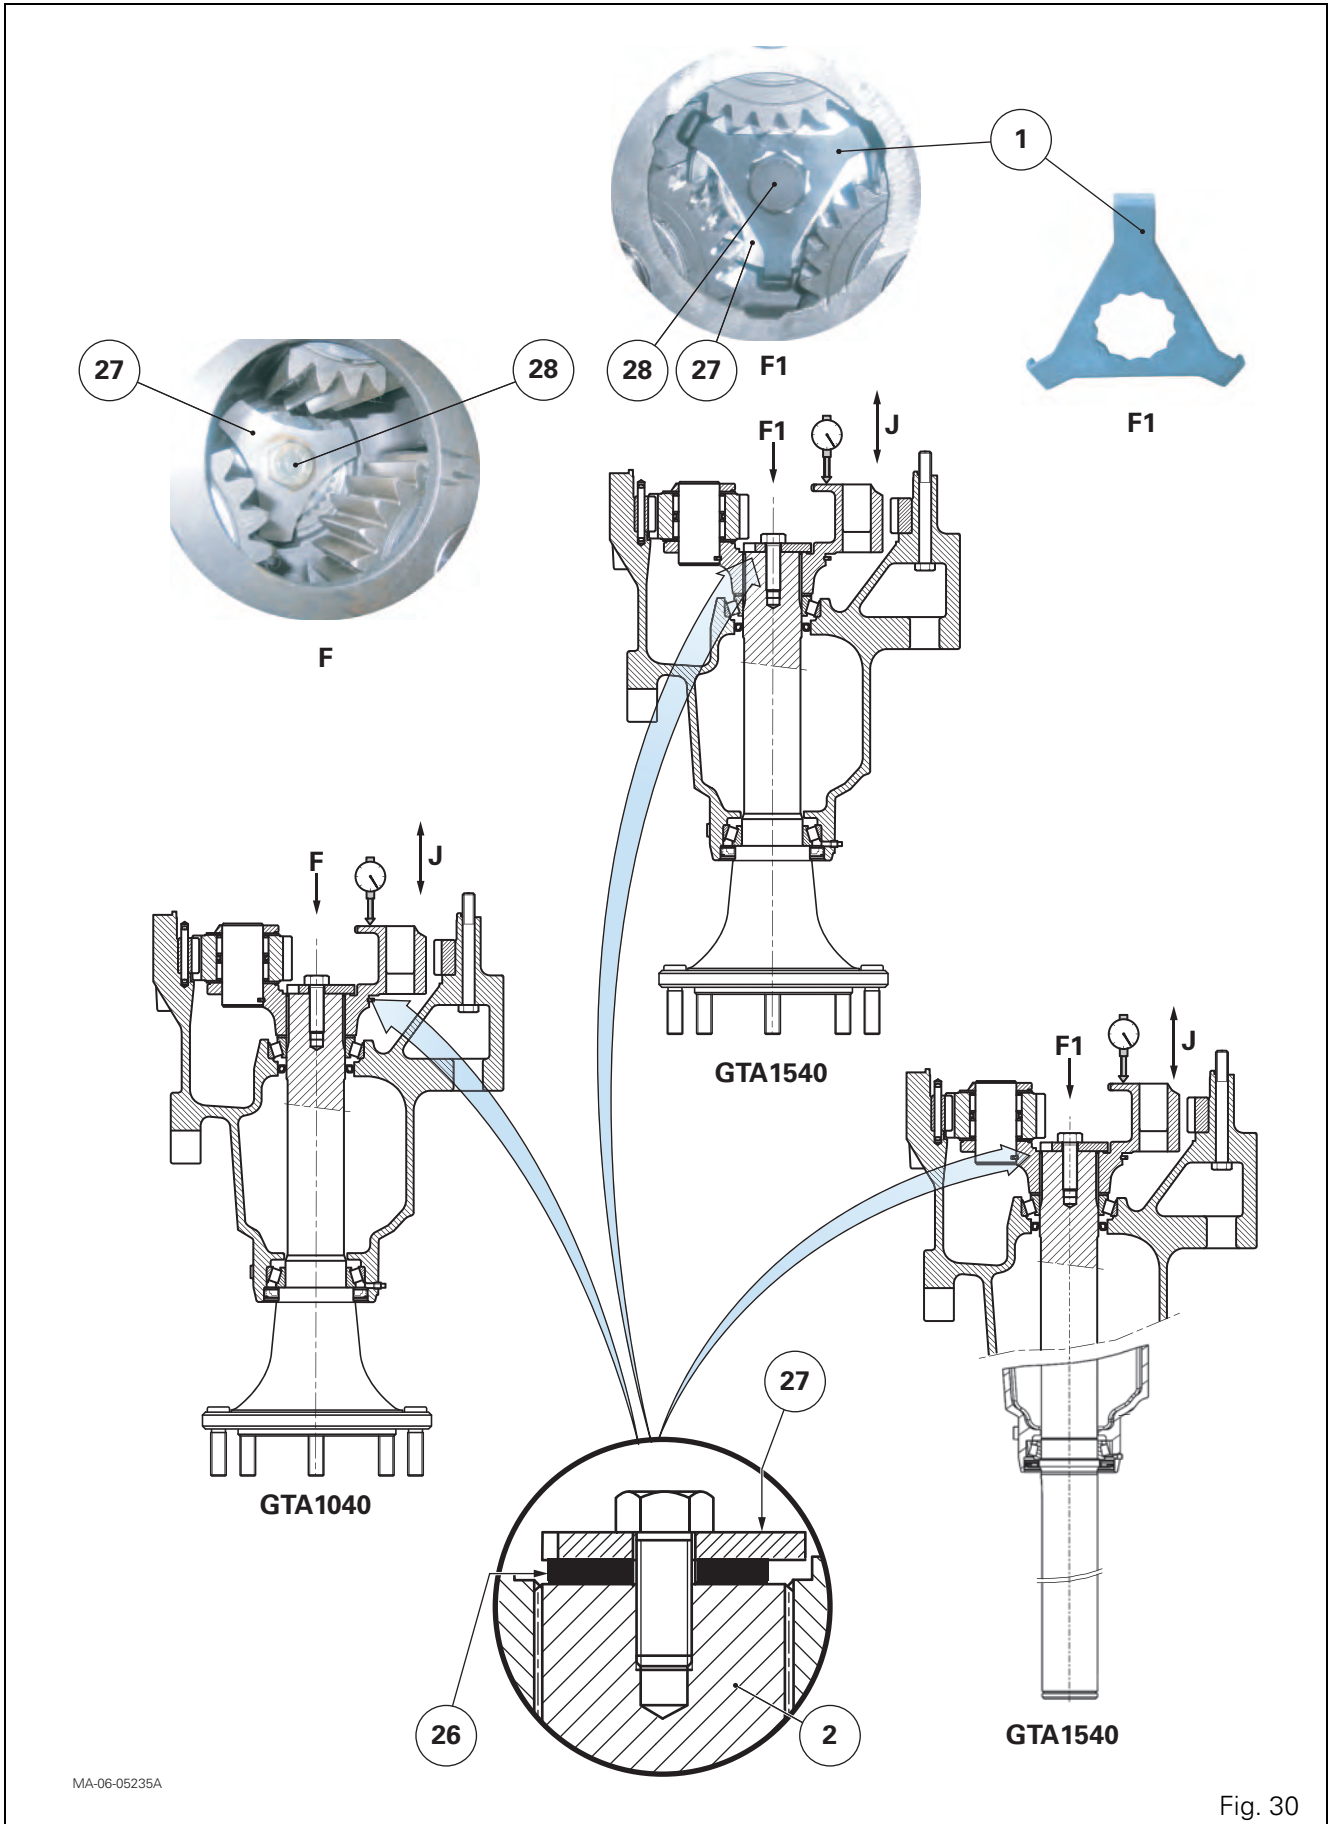

Fig. 30
- the flanged or straight axle shaft (2);
- the tapered roller bearings (7) (8) and (12) (13);
- the trumpet housing (10);
- the tab washer (16);
- the planet carrier (25).
NOTE: The preload shimming of the tapered roller bearings on the axle shaft is carried out using shim(s) (26) fitted between the end of the axle shaft (2) and the tripod washer (27) (Fig. 30).
- the bearing cone (13);
90. Fit shim(s) (26) with a thickness greater than the space between the end of the axle shaft (2) and the mating face of the tripod washer (27) on the planet carrier (Fig. 30). This should give a temporary clearance J.
91. Fit the tripod washer (27).